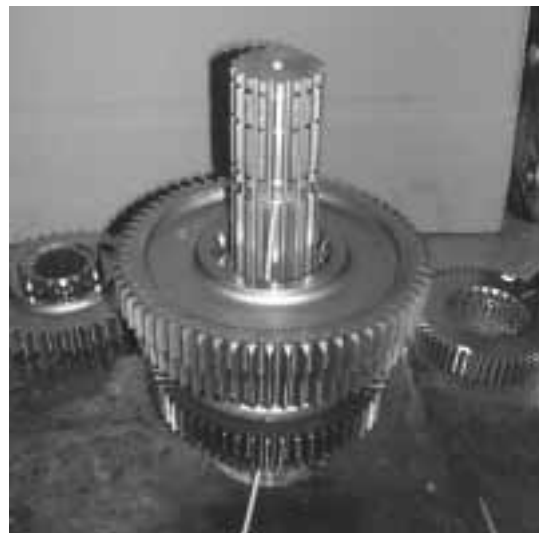

Figure 60 – Installation of 1st Gear
- i. Install the 1st speed gear on the shaft against the spacer washer, clutching teeth up as shown in Figure 60.